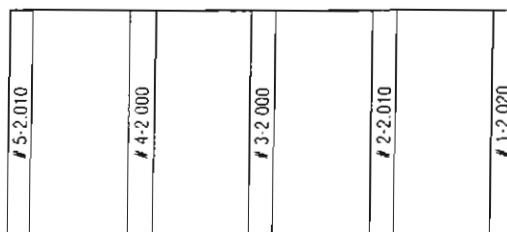

Figure 3
**IMPORTANT:** Be sure to use the correct diameter cam bearing for each of the journal diameters, because Chevrolet small blocks have 3 different block journal diameters (see Fig. 3). #5 - 2.010; #4 - 2.000; #3 - 2.000; #2 - 2.010; #1 - 2.020.